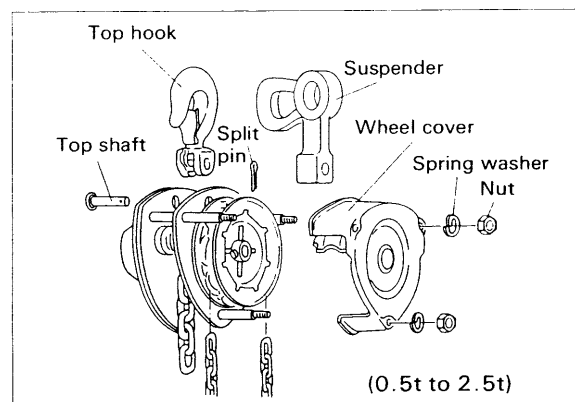

Fig. 1
- 1) For 0.5 to 2.5 ton capacity (Refer to Fig.1)